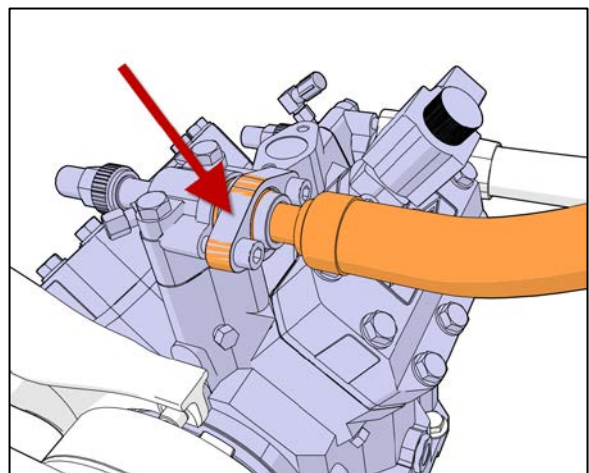

Figure 7
15. Install the flange side of the new hose with the screws and the new gasket. Do not tighten the screws (Figure 7).